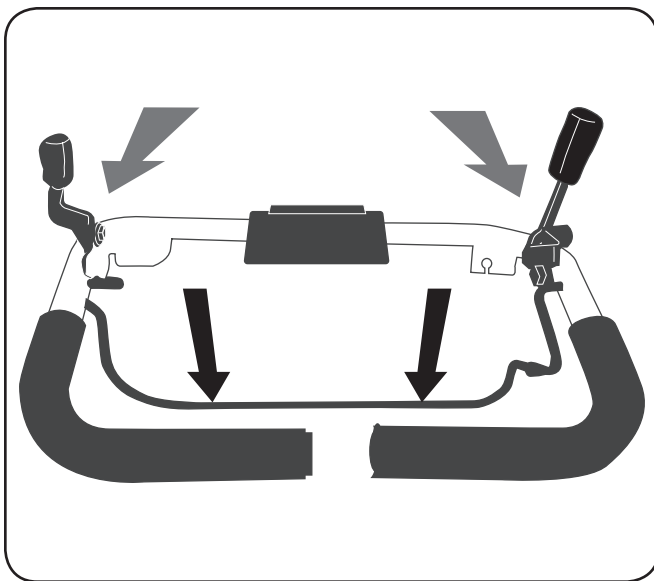

Figure 5-5
- a. Engage the neutral handle rearward and the reverse handle and the tines and wheels will move in reverse. See Figure 5-5. To stop the reverse motion of the tines and wheels, release the reverse handle.